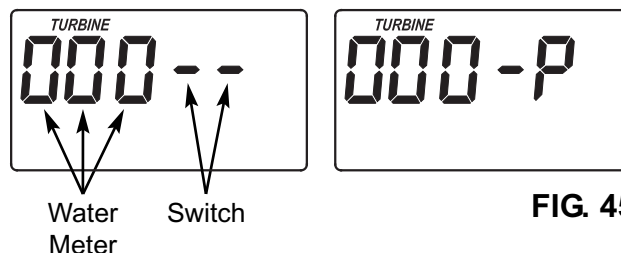

FIG. 45
3. The letter "P" and a dash (or dashes) indicate POSITION switch operation (See Figure 45). If the letter appears, the switch is closed. If the dash shows, the switch is open.